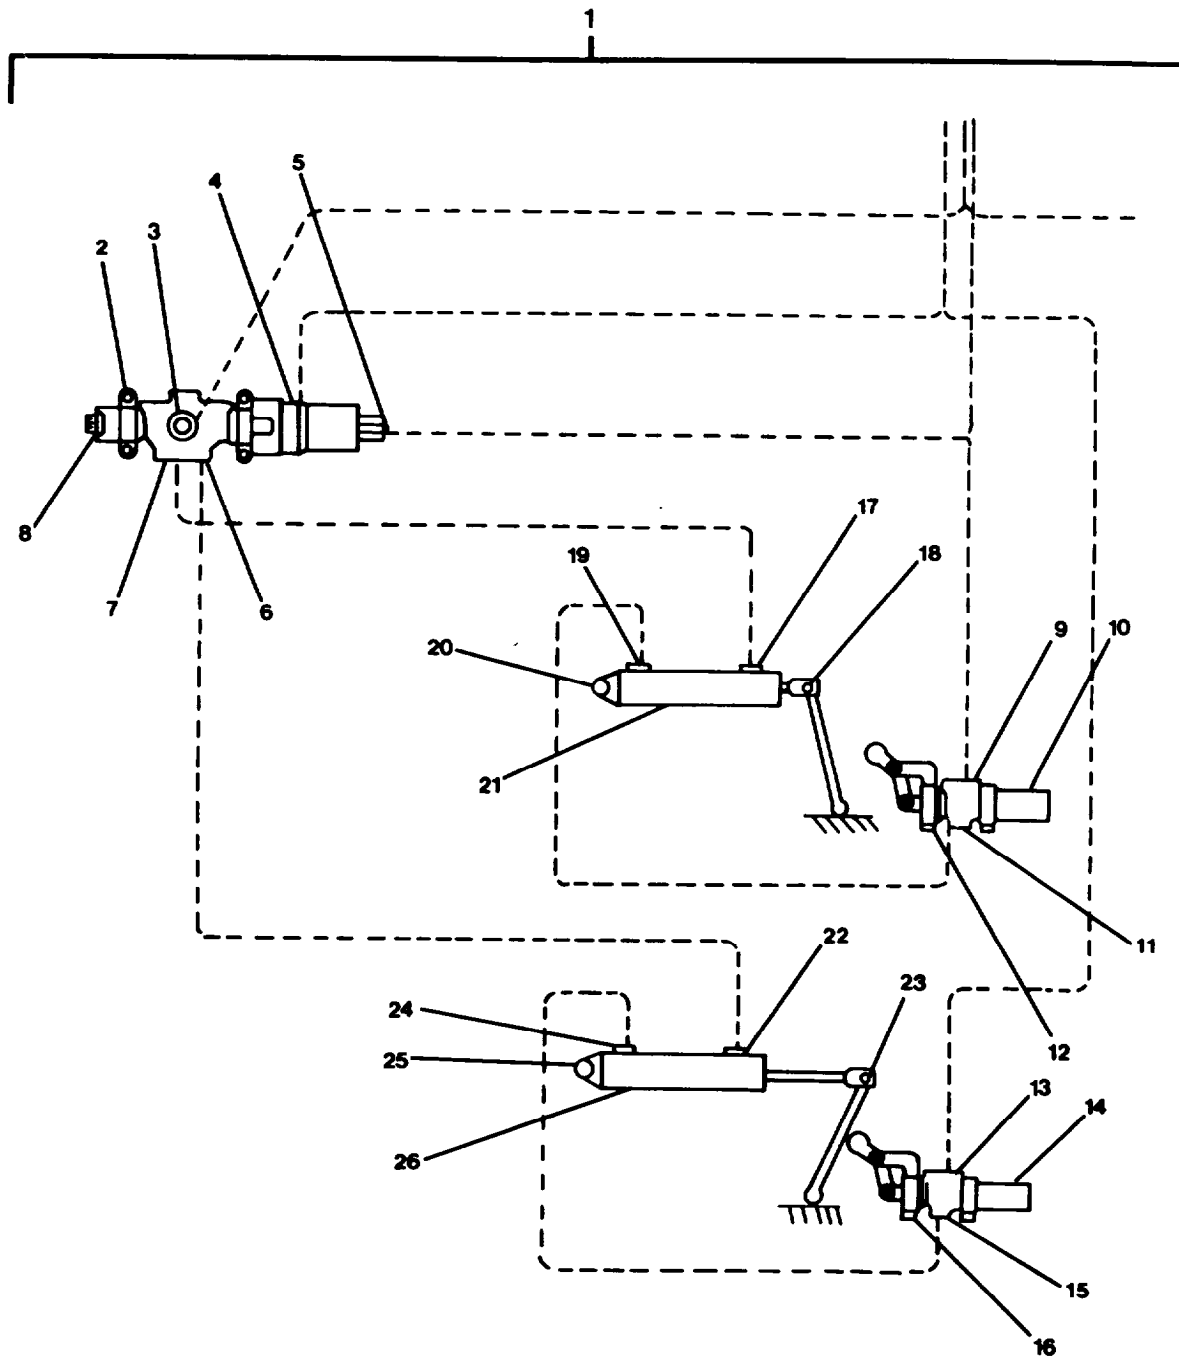
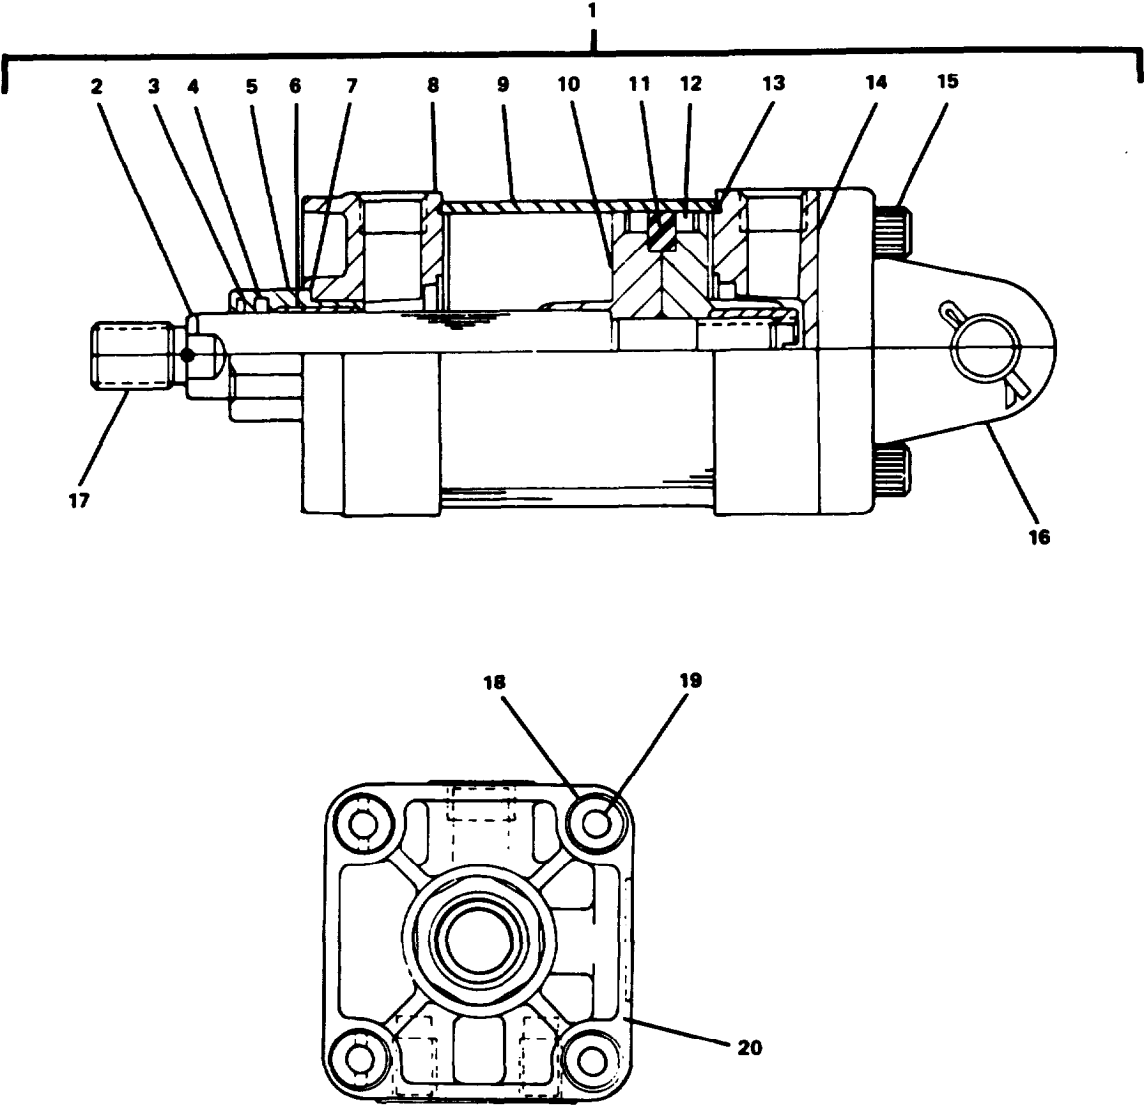

FIGURE 2-112. Bowthruster/Fire Pump Valve System.
FIGURE 2-113. Cylinder Assembly.
REMOVAL (FIGURE 2-112)a. Remove Four-Way Valve.
DISASSEMBLY (Cylinder Assembly) (FIGURE 2-113).
- a. Repair at this level of maintenance is by replacement of four-way valve (8, FIGURE 2-112), roller operated valves (10, 14), preformed packing (3, 4, 7, 12, and 13, FIGURE 2-113), wearing ring (11), and bearing rod (6).
### ASSEMBLY (FIGURE 2-113)
REPLACEMENT (FIGURE 2-112)